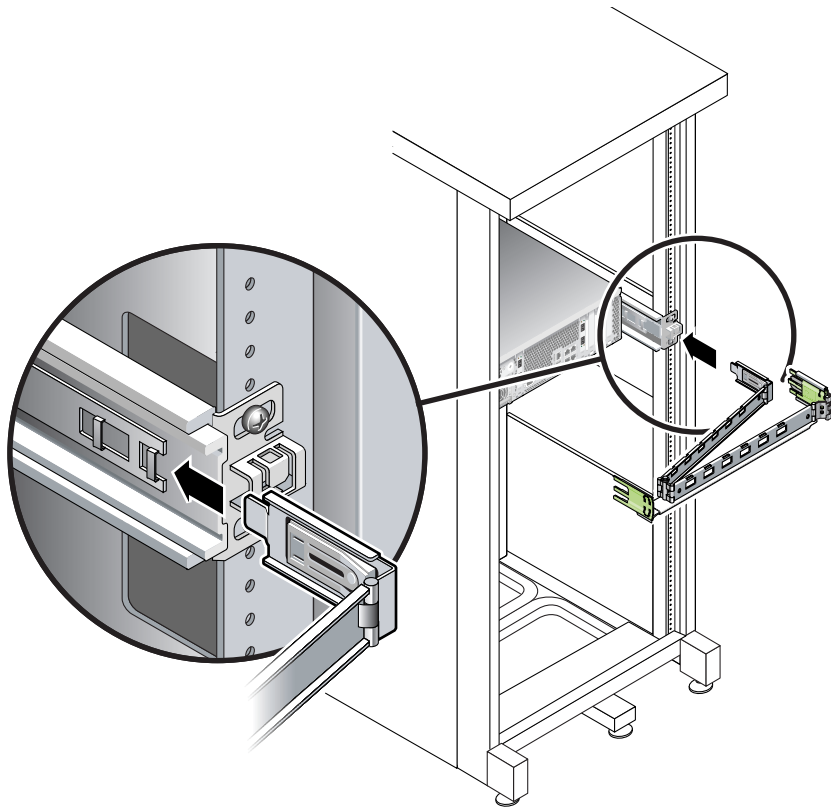

FIGURE 2-22 Mounting the Inner CMA Connector
2. Insert the smaller extension into the clip located at the end of the mounting bracket (FIGURE 2-22).